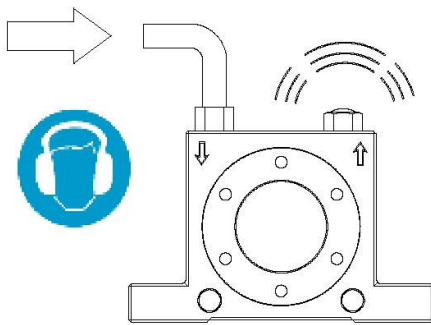

Figure 2.6
For some models in the VVS family this value is higher than 80 dB (A); in this instance with the aim of protecting workers during the use of the vibrator the use of adequate means of personal protection (hearing protection systems) is required (FIG. 2.6).